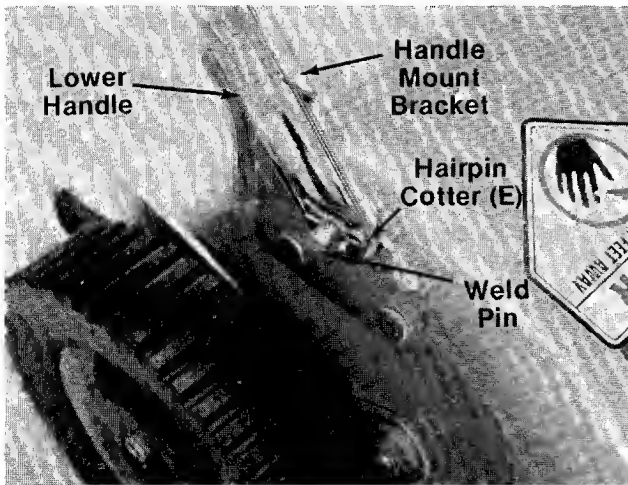

FIGURE 2.
- ← 3. Place lower handle in position over weld pins in handle mount brackets on deck. Secure by placing two hairpin cotters (E) in inner hole on weld pins. See figure 2.